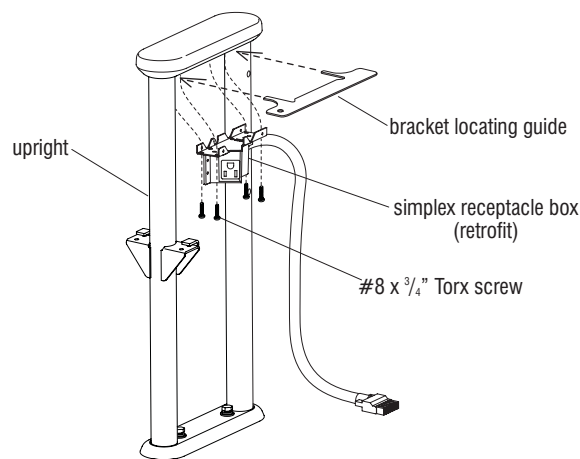

Figure 14
2. Follow the space-planning layout and position the correct number simplex receptacle box between the uprights, under the armcap. Use a bracket locating guide to center the receptacle box both front-to-back and side-to-side. Orient the **locator hole** in the guide to the **front** of the upright when centering. Using the 6" Torx bit supplied, secure the receptacle box to the upright with four #8 x 3/4" Torx screws (Figure 14).